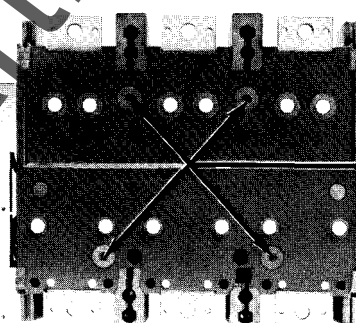

Figure 2. 800A Frame
800 and 2000 Amp Frames Back Mounting Use (4) ¼-20 by ½ in. deep inserts in back of breaker (See Fig. 2 and 3). Torque screws to 50 in-lbs.